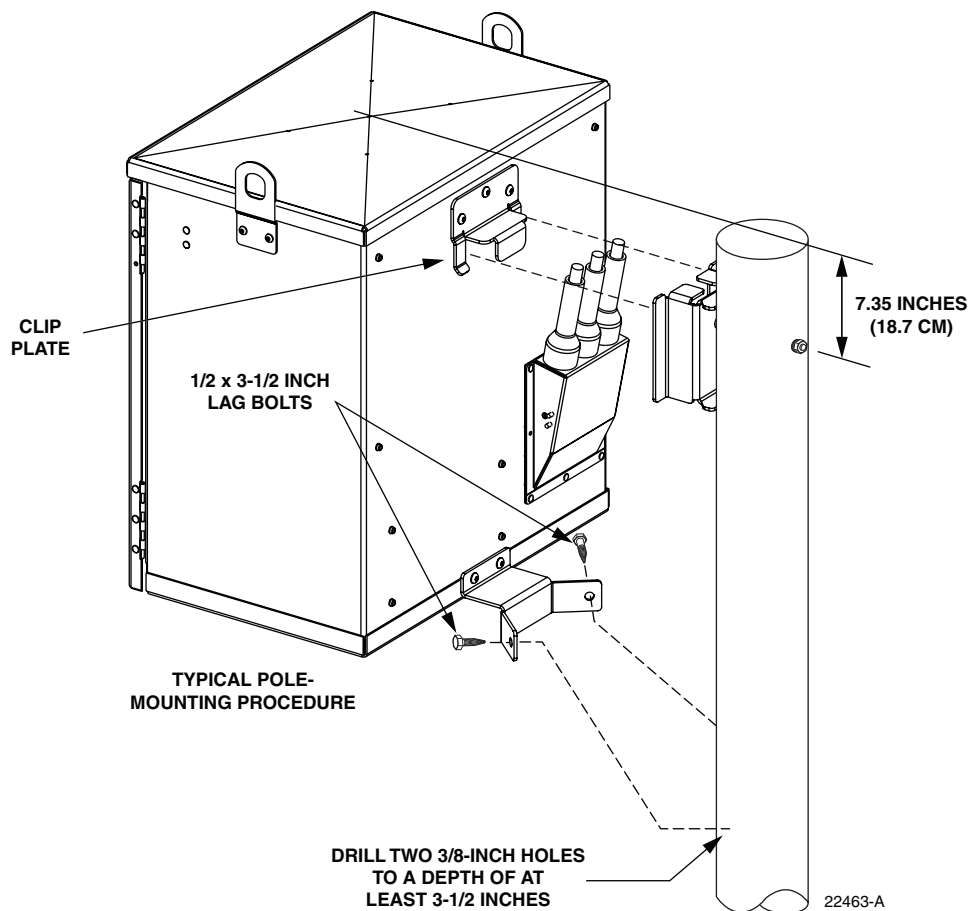

Figure 5. Mounting Cabinet on Pole
8. Hang the cabinet from the installed top bracket as shown in Figure 5. The clip plate on the back of the cabinet slips over the installed top bracket.
10. Using the bottom bracket as a template, drill two 3/8-inch holes into the pole to a depth of at least 3-1/2 inches (see Figure 5).